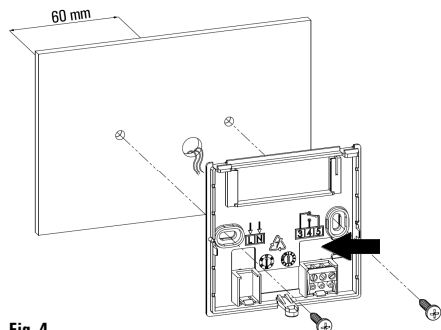

Fig. 4
- 3 Fix the base directly on a wall or on 2-modules wiring boxes through the two screws seats with 60 mm wheelbase paying attention to push the cables through the hole as shown in Fig. 4.